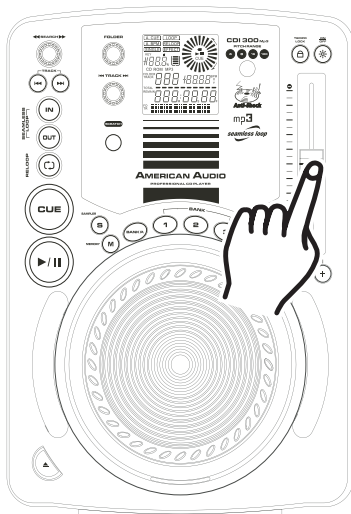
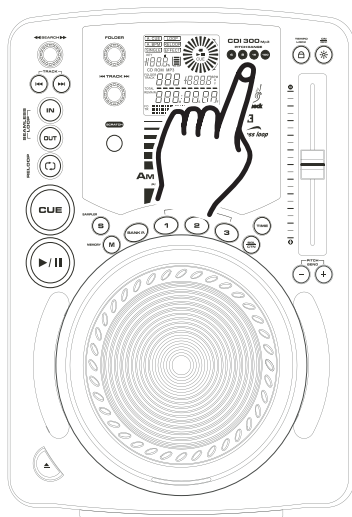

Figure 33
Figure 34
**Adjusting the PITCH SLIDER'S RANGE (5):** You may change the PITCH SLIDER'S (5) operating range at any time. To change the operating range be sure the pitch function is turned on, see figure 33. The pitch percentage can be changed between +/-4%, +/-8%, +/-16%, and +/- 100%. 4% will allow the least amount of pitch manipulation and 100% will allow the most amount of pitch manipulation. To adjust the different ranges, press the PITCH ON/OFF BUTTON (3) and tap on the PITCH RANGE BUTTON (1) until your desired value is reached, see figure 34.